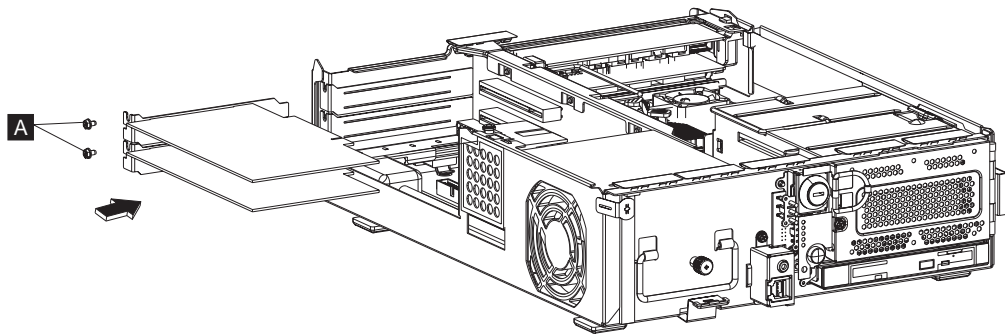

Figure 29. Removing feature cards
2. Locate any installed feature cards and retaining screws ( **A** in Figure 29). Remove the screws and pull outward to remove the feature card.